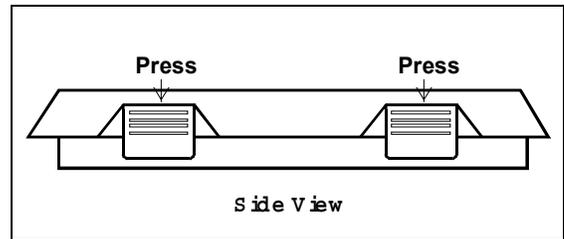

Figure 2-6
3. Remove the 982 controller module(s) by pressing in the four retaining tabs, two on the right side, two on the left side. (Refer to Figure 2-6) Pull the controller module out by gently rocking it from side to side.
14. Remove the 982 controller module(s) by pressing in the four retaining tabs, two on the right side, two on the left side. (Refer to Figure 2-6) Pull the controller module out by gently rocking it from side to side.
18. Looking at the top and left side of each controller module, locate the red DIP switches indicated in Figure 2-6.